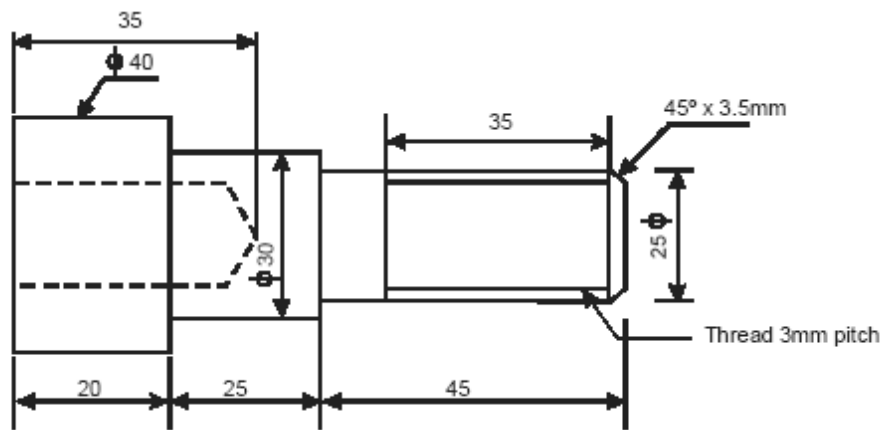

Figure 13
- b) Find the machining time to finish the job as shown in Figure 13 from a 45mm diameter and 95mm long raw material.